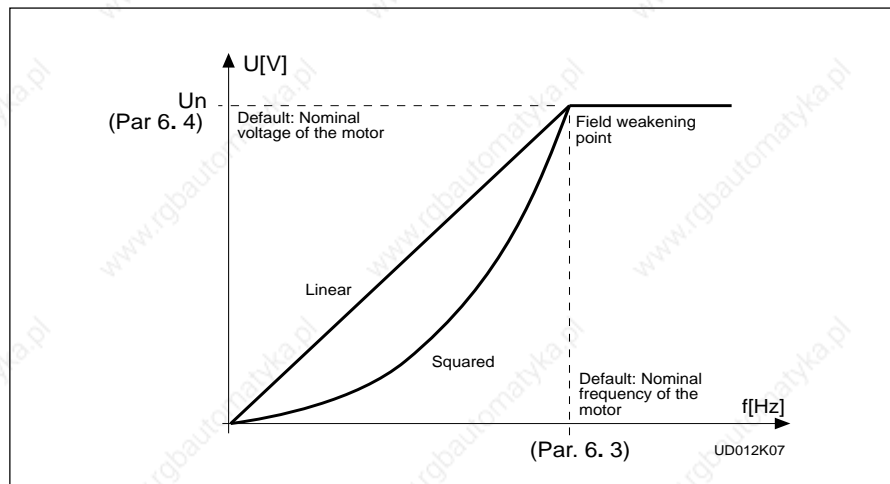

Figure 2.4-1 Linear and squared U/f curves.
- Linear: The voltage of the motor changes linearly with the frequency in the constant flux area from 0 Hz to the field weakening point (par. 6. 3) where the nominal voltage is also supplied to the motor. See figure 2.4-1.
**Squared:** The voltage of the motor changes following a squared curve form with the frequency in the area from 0 Hz to the field weakening point (par. 6. 3) where the maximum voltage is also supplied to the motor. See figure 2.4-1.